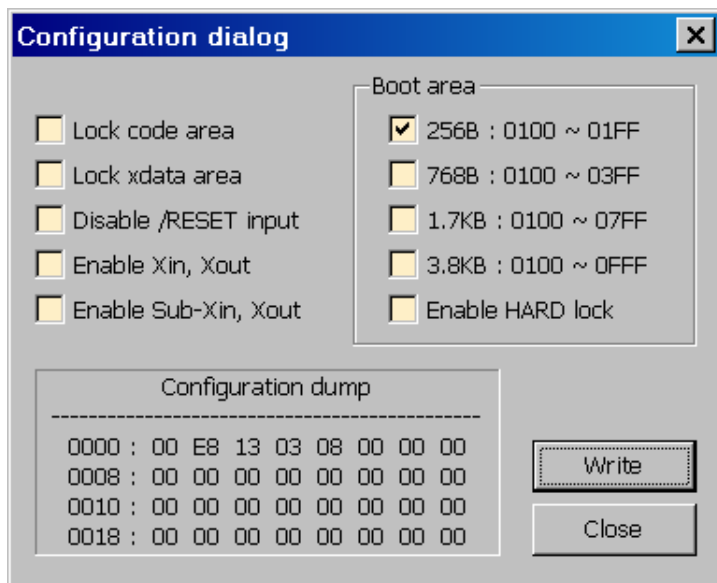

Figure 10. Configuration Dialog
7. Click the **Download** button to open the Configuration dialog box, shown in Figure 10.